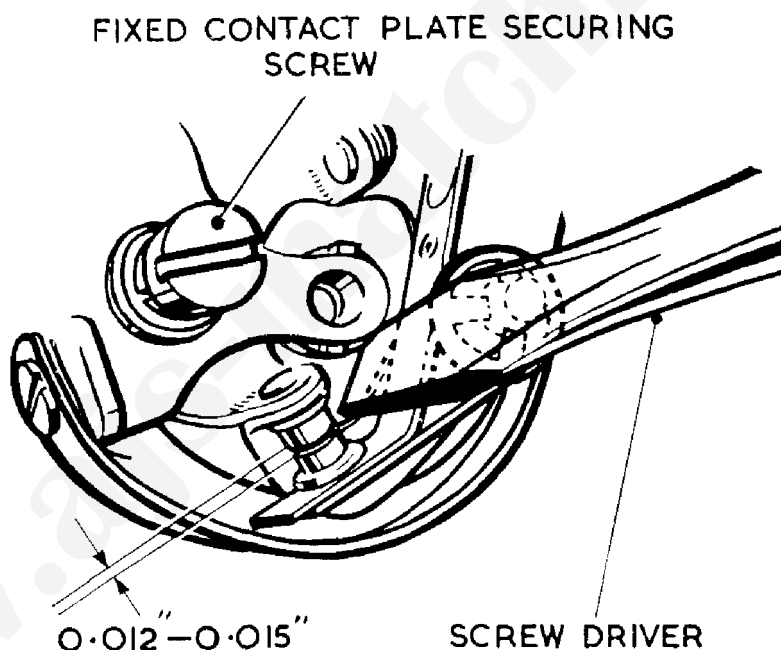

FIG. 102
The capacitor is now attached to the base plate by a screwed extension. Take away the base plate to remove capacitor. Fig. 102 shows the early type.
- (1) IGNITION—Magnetos, High-tension wires, Sparking plugs and Cut-out switch.
- (2) CHARGING—Dynamo compensated voltage control unit and Battery.
- (3) LIGHTING AND ACCESSORIES—Lamps, Horn, Switches and Wiring.
**Adjustment every 3,000 miles.** Remove the contact breaker cover and turn the engine until the contact points are fully opened. Check the gap with a gauge having a thickness of .012" (spanner 015023 has a gauge of this thickness as an integral part of it). If the setting is correct the gauge should be a sliding fit, but if the gap varies appreciably from the gauge it should be adjusted by releasing the fixed contact plate securing screw and using a screwdriver as shown in Fig. 102.